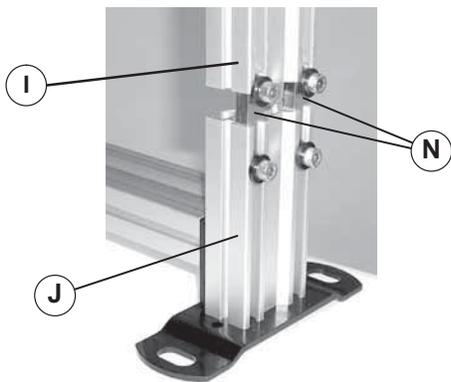

Figure 5
6. Slide stand leg (Figure 5, item I) over both tube joining bars (N) until it is resting on leg of base assembly (J).